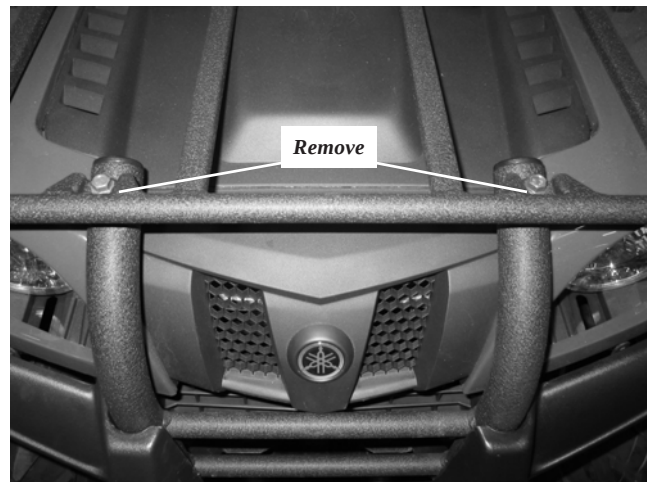

Figure 5: Remove bolts securing grab bar to rack
5. Remove bolts securing grab bar to front rack. See figure 5.